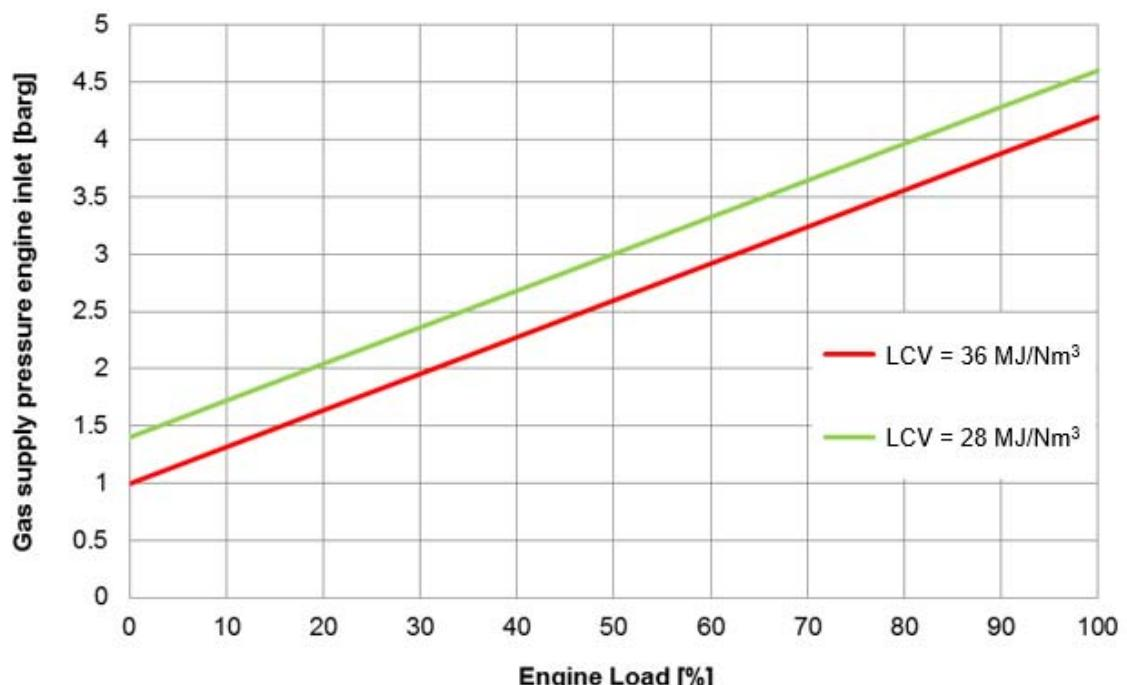

Figure 5.2 Gas supply pressure at engine inlet
- ✓ Refer to Figure 5.2 for required gas pressure.
Gas supply pressure can be interpolated in case of 36 MJ / Nm³ and 28 MJ / Nm³ of gas lower heating value as Figure 5.2. The gas supply pressure at gas regulating unit inlet, G11 (See the diagram Figure 6.7) should be considered as followings;